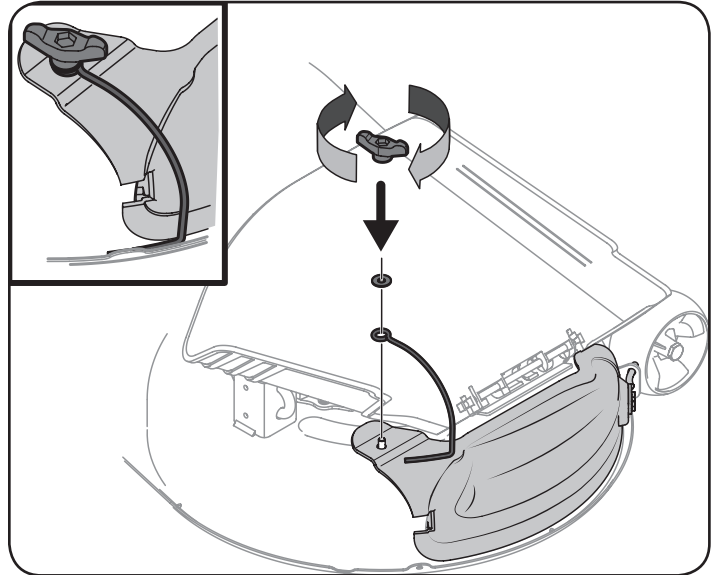

Figure 6
Important: Be certain that the bottom edge of the mulch plug is installed on the inside of the lip of the deck opening, as shown in Figure 6.
1. Slide the mulch plug wire (747-06686) over the pin on the deck's surface, position the washer over the wire, and secure the mulch plug with the wing knob. See Figure 6.
NOTE: Make sure that the wing knob is snug, and the wire is positioned inside the lip of the deck to keep the mulch plug securely in place. See the inset in Figure 6.